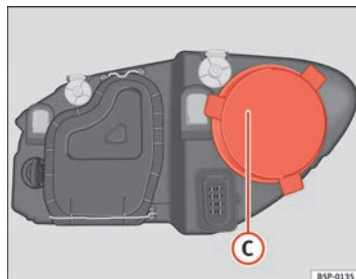

Fig. 166 Main beam headlights
- Remove the cover ⇒ fig. 166 C by pulling on this.